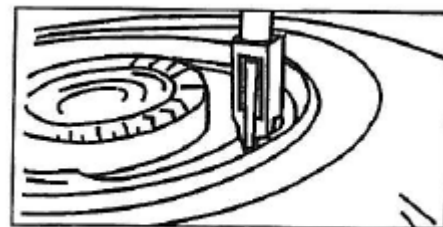

Figure 5
4. Stop breaking the tire bead when you have moved the bead breaker about $\frac{3}{4}$ of the way around the rim. (Fig. 5)